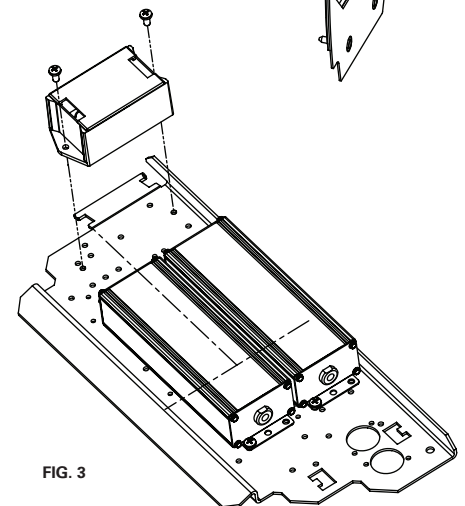

FIG. 3
2. Remove #10-24 Pan Philip screw and MOV Circuit Module Replacement off **FIG. 3**.